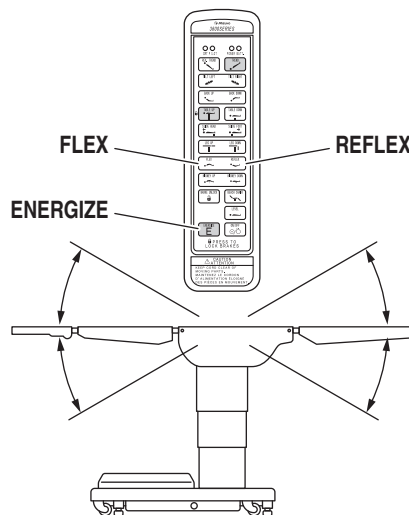

Figure 2-13. Flex/Reflex Positioning
h. Flex Positioning To place the table top in a flex position from horizontal, press the ENERGIZE button and then the FLEX button (figure 2-13). To return the table top to a horizontal position or into a reflex position, press the ENERGIZE button and then the LEVEL or REFLEX button.